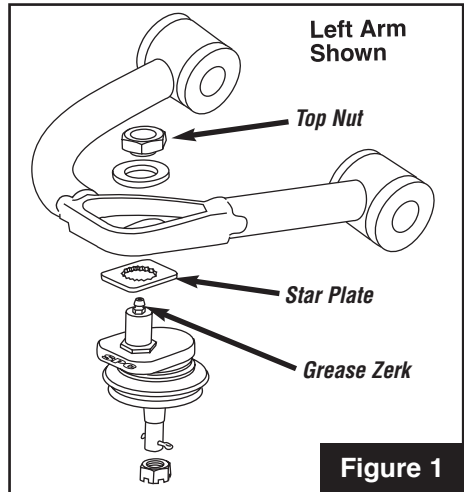

Figure 1
7. Install new ball joint as shown in **Figure 1** and loosely install washer and top nut.